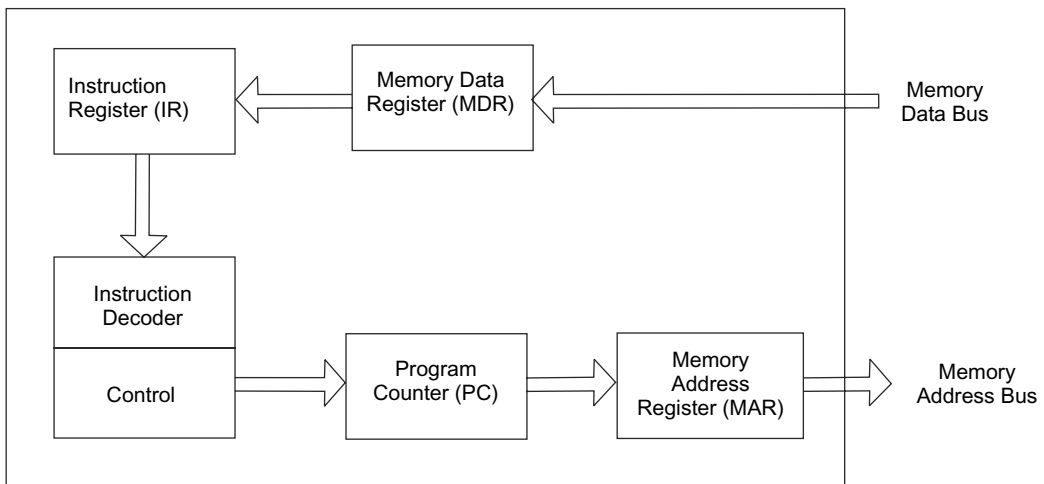

Fig. 3.8 Flow of instruction
At the starting of the Fetch Cycle (FC), the content of the Program Counter (PC) is loaded into a Memory Address Register (MAR). After that the content of MAR is transferred to the memory through the address bus. Subsequently, the microprocessor sends control signals to the memory and it indicates that microprocessor wants to read the content of the memory. Then the decoder circuit in the memory is activated and the memory can understand what will happen. Consequently, the memory sends an opcode to the microprocessor through the data bus. Initially, the opcode is placed in the memory data bus and then it is placed from the memory data bus to Memory Data Register (MDR). Subsequently, the opcode is placed in the Instruction Register (IR). Then, the instruction decoder decodes the instruction and the instruction is executed by the microprocessor. After that the content of the Program Counter (PC) is incremented by one. Figure 3.8 shows the flow of instruction.